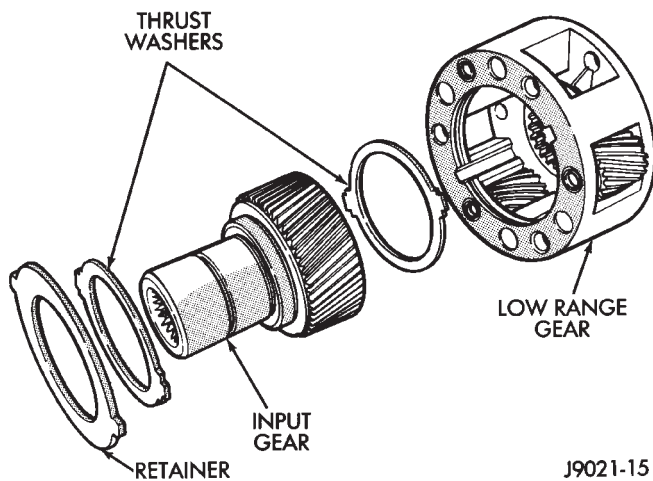

Fig. 27 Input And Low Range Gear Components
(39) Remove retainer, thrust washers and input gear from low range gear (Fig. 27).
(40) Remove oil seals from rear retainer, rear extension housing, oil pump feed housing and case halves.
(41) Remove magnet from front case.